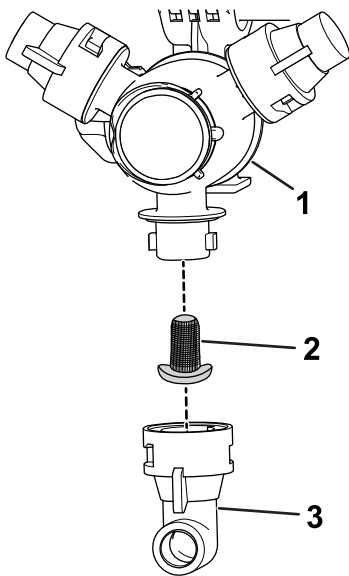

Figure 16
2. Remove the nozzle from the spray turret (Figure 16).
3. Remove the nozzle filter (Figure 16).
5. Install the nozzle filter (Figure 16).
6. Install the nozzle onto the spray turret (Figure 16).